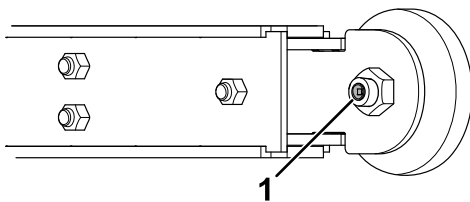

Figure 9
4. Clean the grease fitting with a rag (Figure 9).